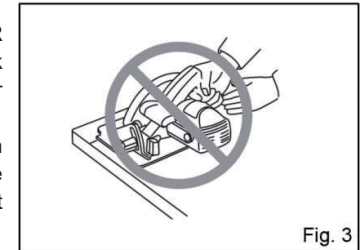

Fig. 3
- ALWAYS hold the tool firmly with both hands. NEVER place your hand or fingers behind the saw. If kickback occurs, the saw could easily jump backwards over your hand, leading to serious personal injury. (Fig. 3)